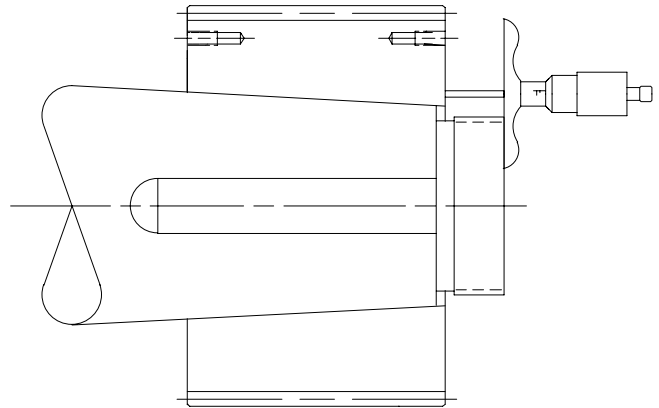

Figure 4
- 2.1.2.3 Mount the gear cold by placing it on the shaft and snapping it in position by hand. Measure the cold position of the gear, using a micrometer depth gauge, as on Figure 4. Mark the position of the depth gauge, so that measurements can be taken from the same position after the gear has been mounted.